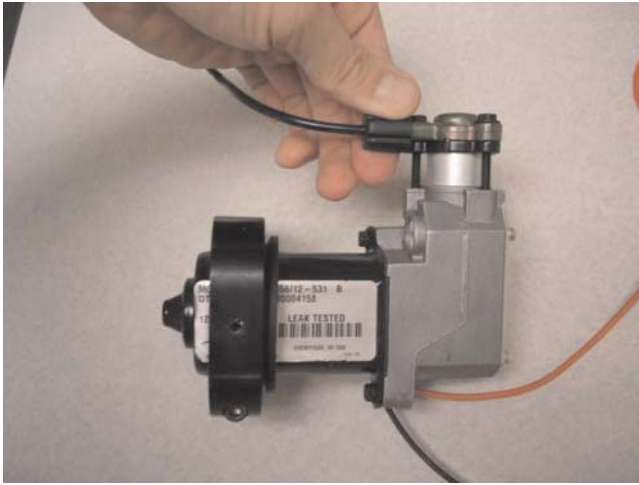

Figure 3
*8. Un-screw outlet valve from compressor and remove original airline (Fig. 3), being sure to not lose small o-ring around the end of airline. This will be used in the next step.
11. Un-screw outlet valve from compressor (Fig. 3), being sure to not lose small o-ring under the cap, this will be used in the next step.